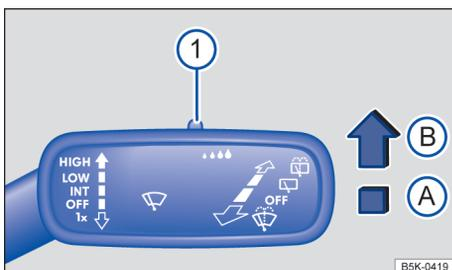

Fig. 82 Windshield wiper lever: Adjusting the rain sensor ① (if equipped).
Push the lever to the desired position → fig. 82:
The rain sensor's sensitivity can be adjusted manually → fig. 82 ③, → ⚠.